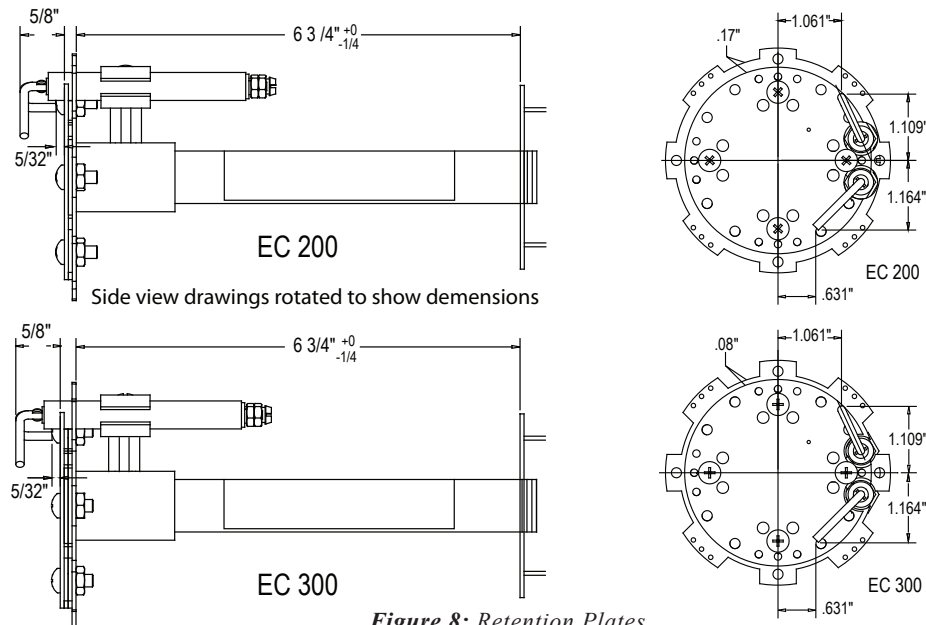

Figure 8: Retention Plates
- Service will normally consist of inspection and cleaning. Check the electrodes for deterioration and the insulators for cracks. The electrodes are adjustable. If defective replace. Be sure to replace the rubber boot over the spark electrode and treat electrode leads with care. Due to high voltage any damage to the insulation is a potential leak path. When a new electrode is installed, be sure to set the spark gap and flame sensor dimensions, as shown in Figure 8.